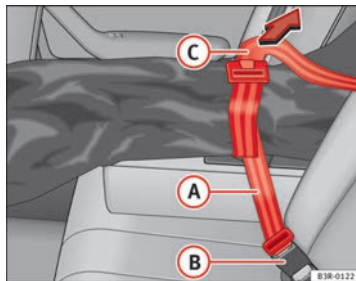

Fig. 128 Fastening the ski bag in the seatbelt buckle
- Insert the fastening belt (A) ⇒ Fig. 128 of the ski bag into the centre seat belt buckle (B).
- Pull the free end of belt (C) to tighten.